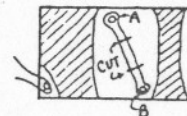

FIGURE 2
10. With your razor blade or X-acto knife, cut this conductor at two points (see Figure 2) and carefully scrape away the conductor between the two cut points, thereby creating two "floating" points.